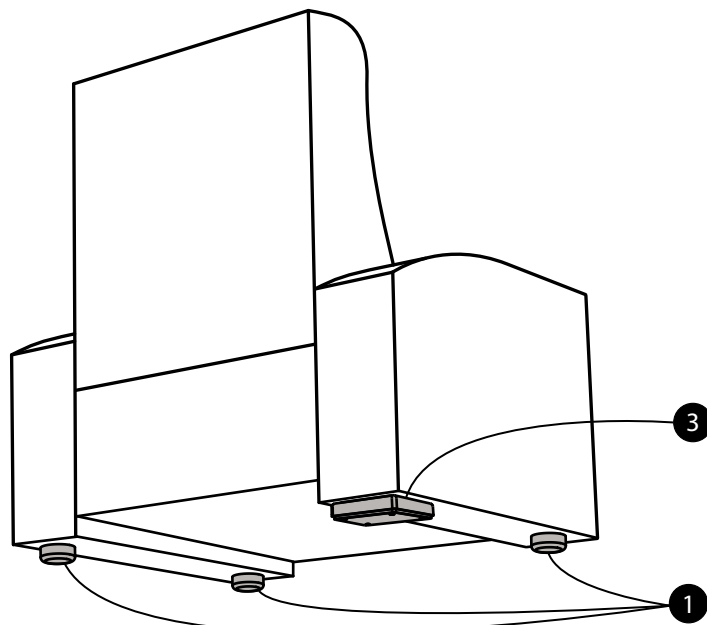
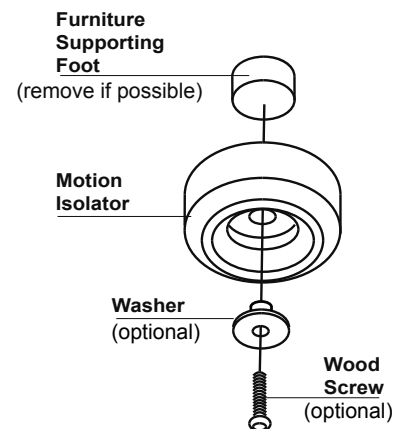

Figure 7
Figure 8
If possible, remove all of the furniture's supporting feet. Position three Motion Isolators in place of the supporting feet (ref: fig. 7). Orient each Isolator such that the flat side faces upward (open side down). Use the supplied #8 wood screw and washer to secure the Motion Isolator. A 1/8 inch pilot hole may be necessary. If removal of the furniture's feet is impractical, simply place the Motion Isolators under the supporting feet (ref: fig. 8).
Place the TES-100 Actuator under the chair in place of a rear supporting foot. (Actuator may be placed under the rear or front feet, though rear feet may afford the Actuator more protection from errant objects.) If the chair's supporting feet are not removed, place the rear foot on the center of the TES-100 Actuator. Orient the TES Actuator such that the binding posts face towards the front of the couch or chair (ref: fig. 7).
1. Install Motion Isolators: Per standard installation instructions (ref: fig. 8 and 11).